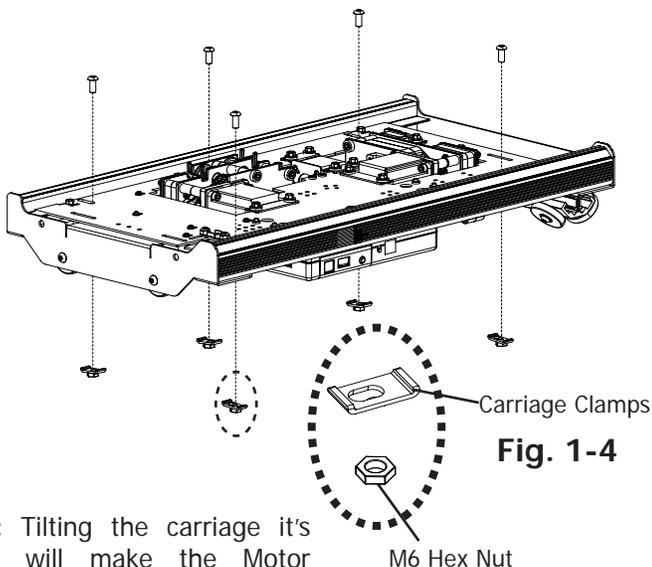

Fig. 1-4
Step 1-2: Attach the QuiltMotion Plate to the Bottom Carriage using the (5) Carriage Clamps and the (5) M6 x 14mm SBHC Screws and (5) M6 Hex Nuts, as shown in Fig. 1-4 through 1-7. Do not tighten the nuts all the way, as you will need to align the plate with the belts in a later step.